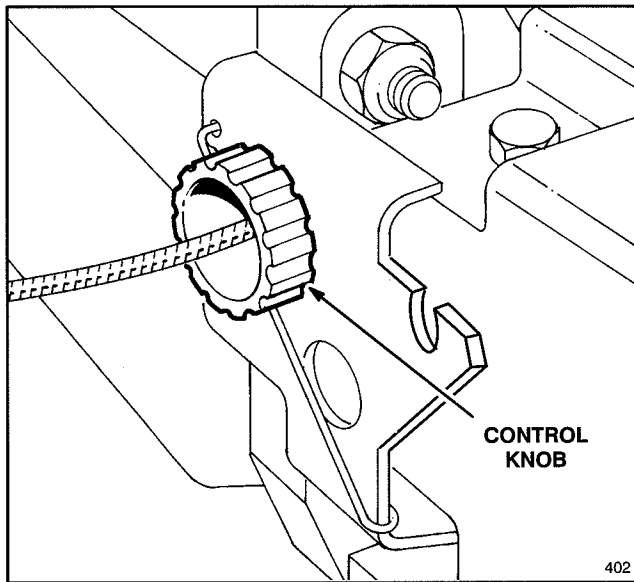

Figure 17
1. ADJUSTMENT (Fig. 17)—Rotate control knob clockwise 1/2 turn if mower does not self-propel. If mower creeps forward, rotate knob 1/2 turn counterclockwise to loosen belt.